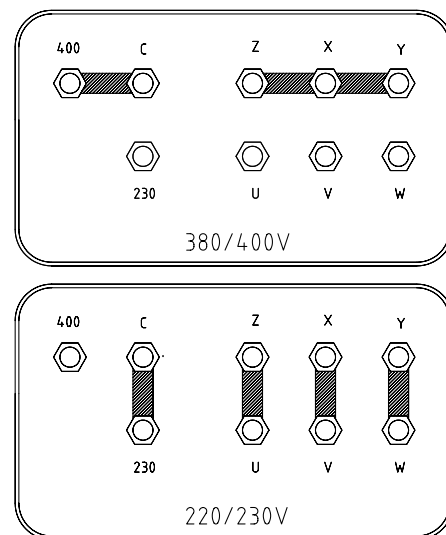

FIG. 1
- Change the connections on the voltage change board, following the instructions on the label (see Fig. 1)